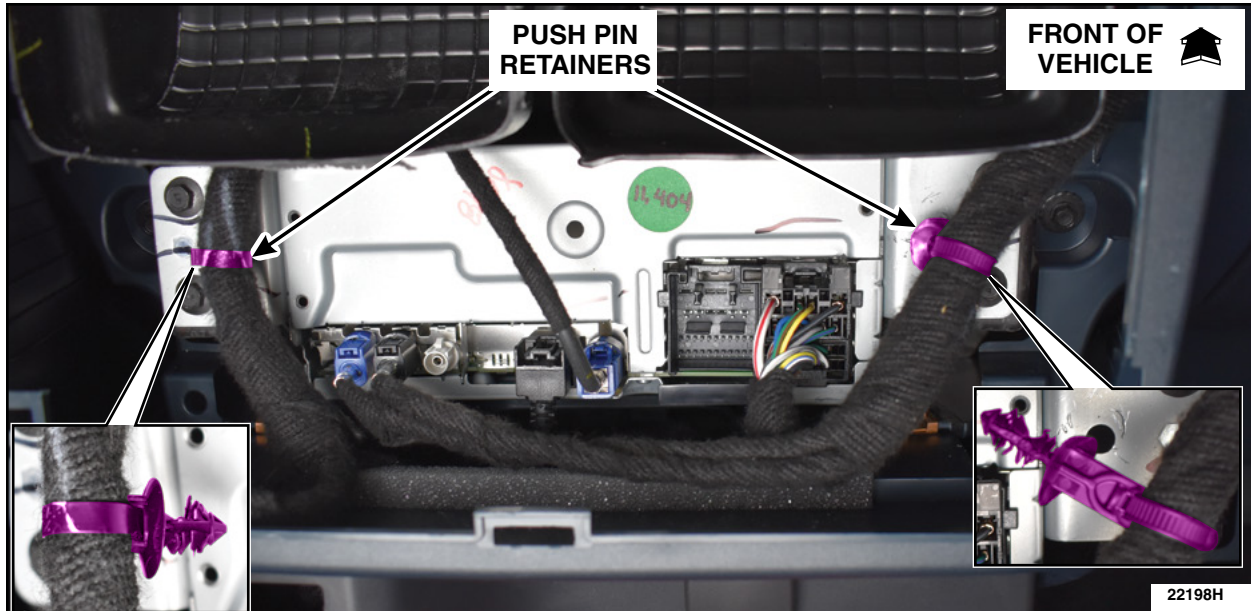

FIGURE 7
7. Disconnect the push pin retainers See Figure 7.